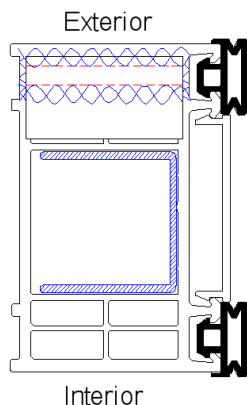

FIG 1.
- Identify the left & right jamb as per FIG 1 thru 3.